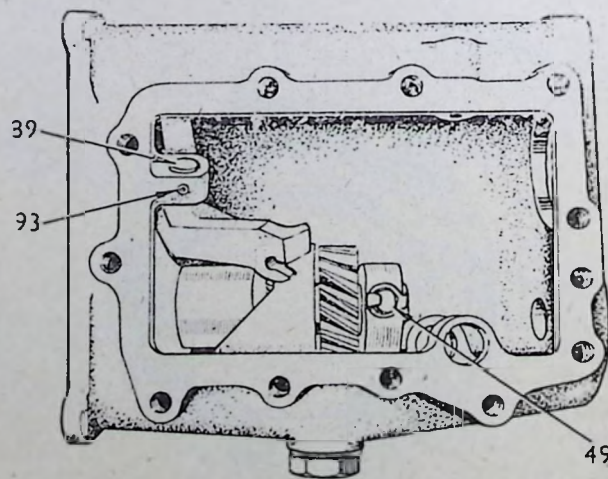

FIG. 46.—Gearbox internal locking arrangements.
Lock the spindle with set screw (49) and tab washer (50) (Fig. 46).
Fit pivot pin (89) (Fig. 46) (noting that the cross-drilling is tapped to receive the grub screw at one end only) and lock with grub screw (93).